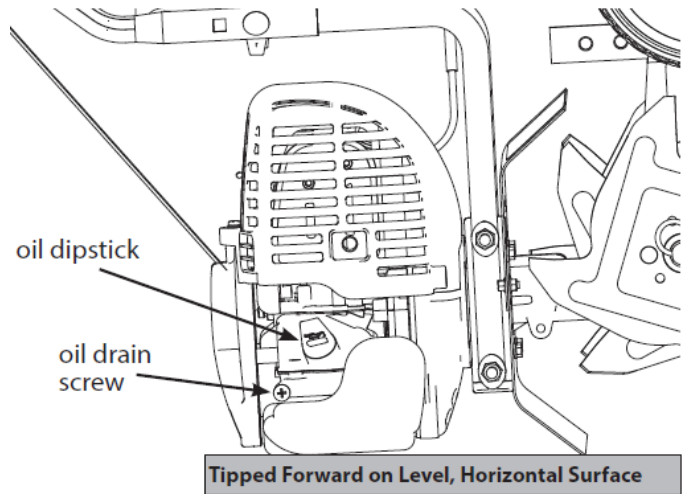

Figure 10
Proper position for checking oil level or re-filling oil is face down, with the gas tank of the Tiller down on a horizontal surface (**Figure 10**). Failure to maintain this position can result in over filling the engine with oil which will impair the engine's performance.
2. Unscrew oil drain screw and empty oil into suitable oil container (**Figure 10**). Dispose of oil properly.